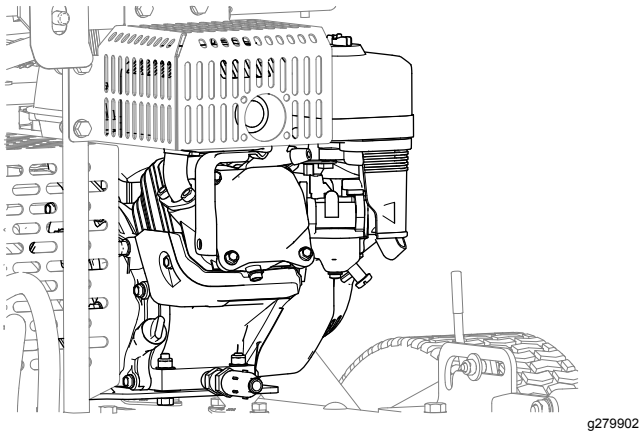

Figure 41
4. Clean dirt and debris from the engine and the engine-cooling fins (Figure 41).